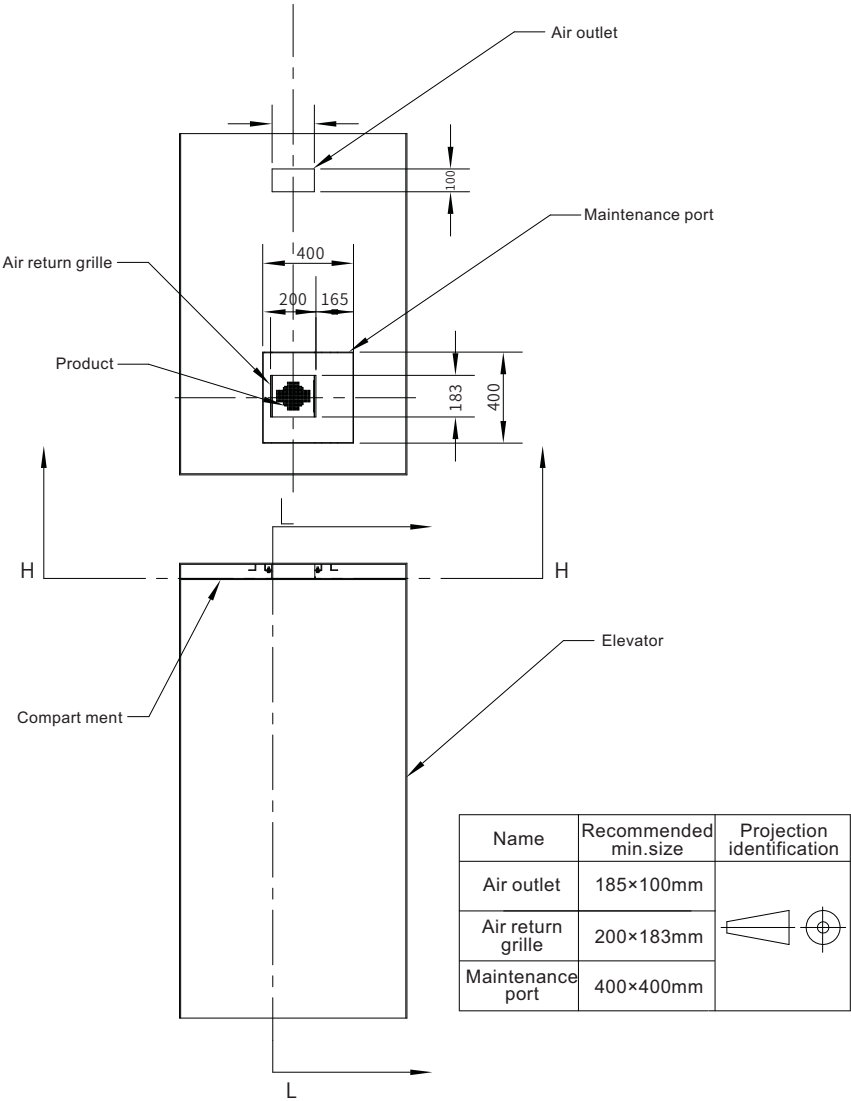

Figure 6.14 Schematic diagram of min. dimensions of air return port and maintenance port
(1) Suggested minimum dimensions of air supply outlet, air return outlet and maintenance port, as shown in Figure 6.14;